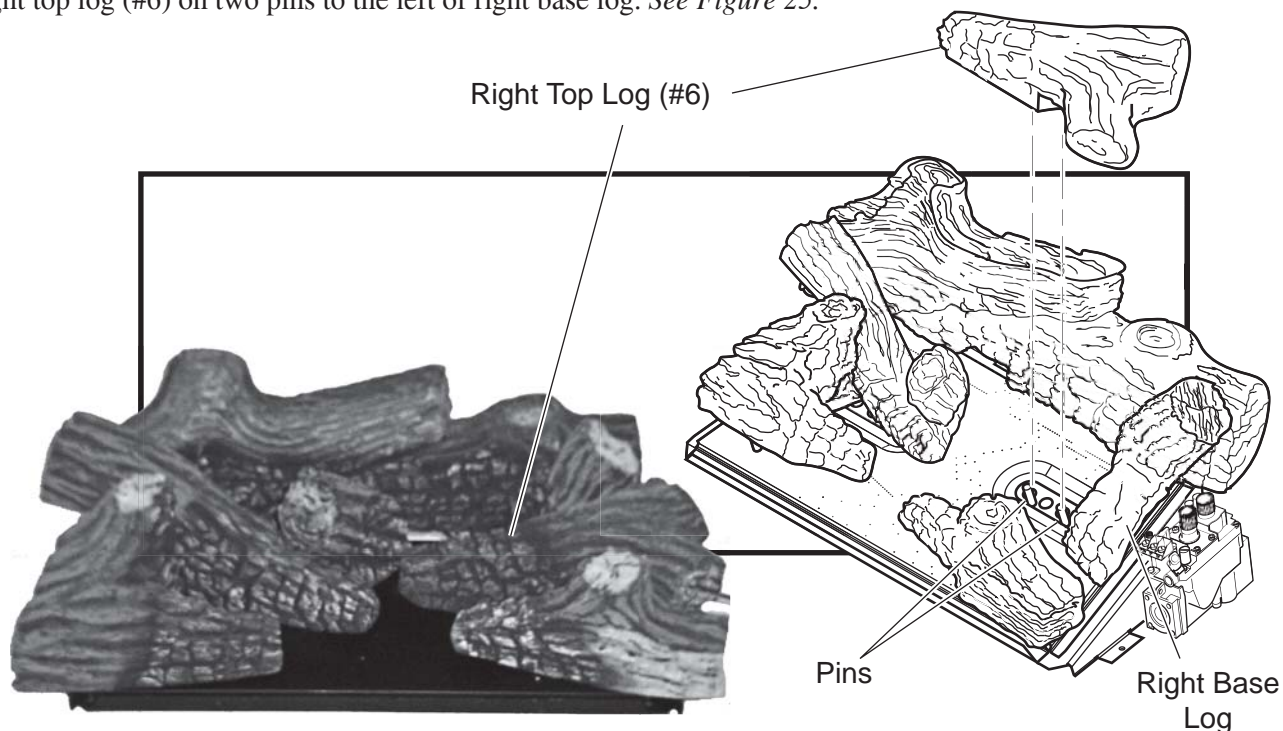

Figure 25 - Installing Right Top Log (#6)
6. Place right top log (#6) on two pins to the left of right base log. See Figure 25.